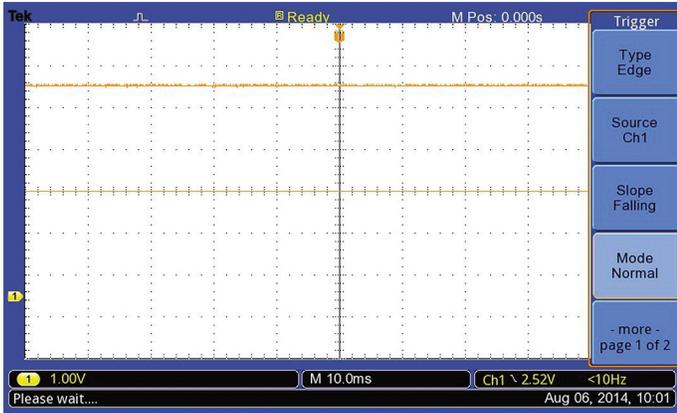

Figure 4. Trigger set-up.
2. On the oscilloscope, push Default Setup and Autoset to trigger a stable waveform on the display. Push Trigger Menu. Choose the following settings: "Edge" as the trigger type, "CH1" as the trigger source, "Falling" for slope, and "Normal" for mode. Rotate the "Vertical Position" knob to move the waveform above the center of the grid and set the "Vertical Scale" knob to 1V/div. Move the trigger level to the center grid line (see Figure 4).